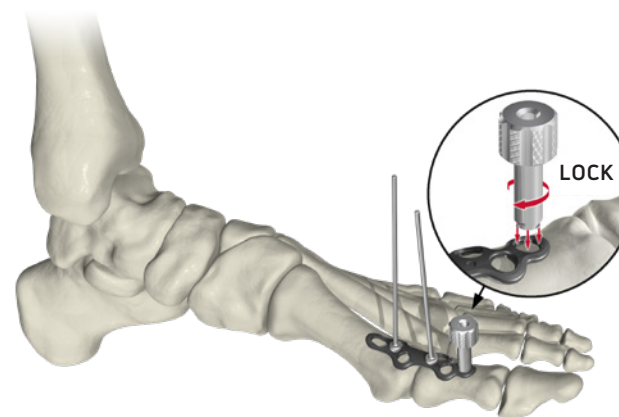

FIGURE 2
- When using a screw monoaxial, thread the Arsenal Drill Guide Tower into the locking hole (FIGURE 2) or the static angle drill guide.